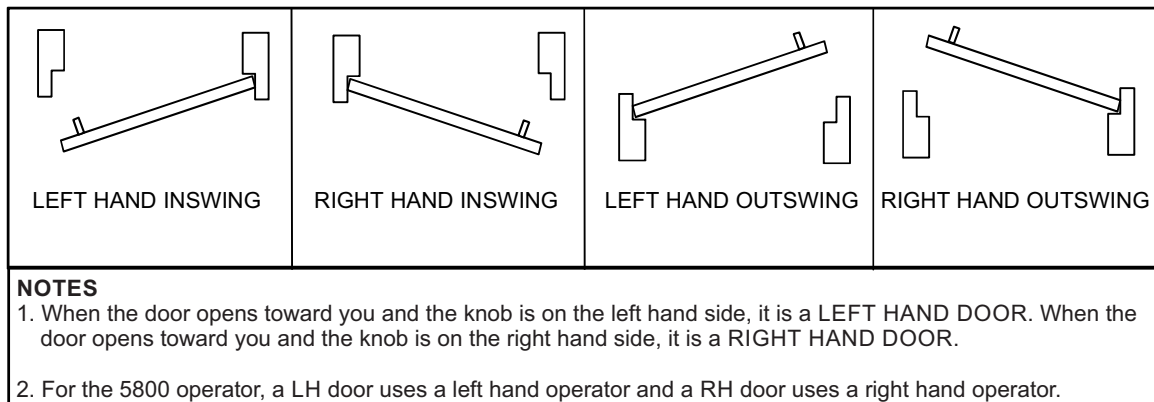

Figure 4
1. Refer to Figure 4, and DETERMINE desired door handing.